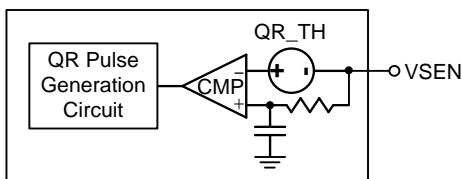

Figure 11. GFX Controller : Quick Response Triggering Circuit
Hence, the output voltage generate undershoot to fail specification. RT3669EA has Quick Response (QR) mechanism which is able to improve this issue. It adopts a nonlinear control mechanism which can disable interleaving function and simultaneously turn on all UGATE one pulse at instantaneous step-up transient load to restrain the output voltage drooping. The output voltage signal behavior needs to be detected so that QR mechanism can be triggered. Refer to Figure 11, the output voltage signal is via a remote sense line to connect at the VSEN pin. The QR threshold can be set by SET1 pin setting for GFX controller refers to Table 3.